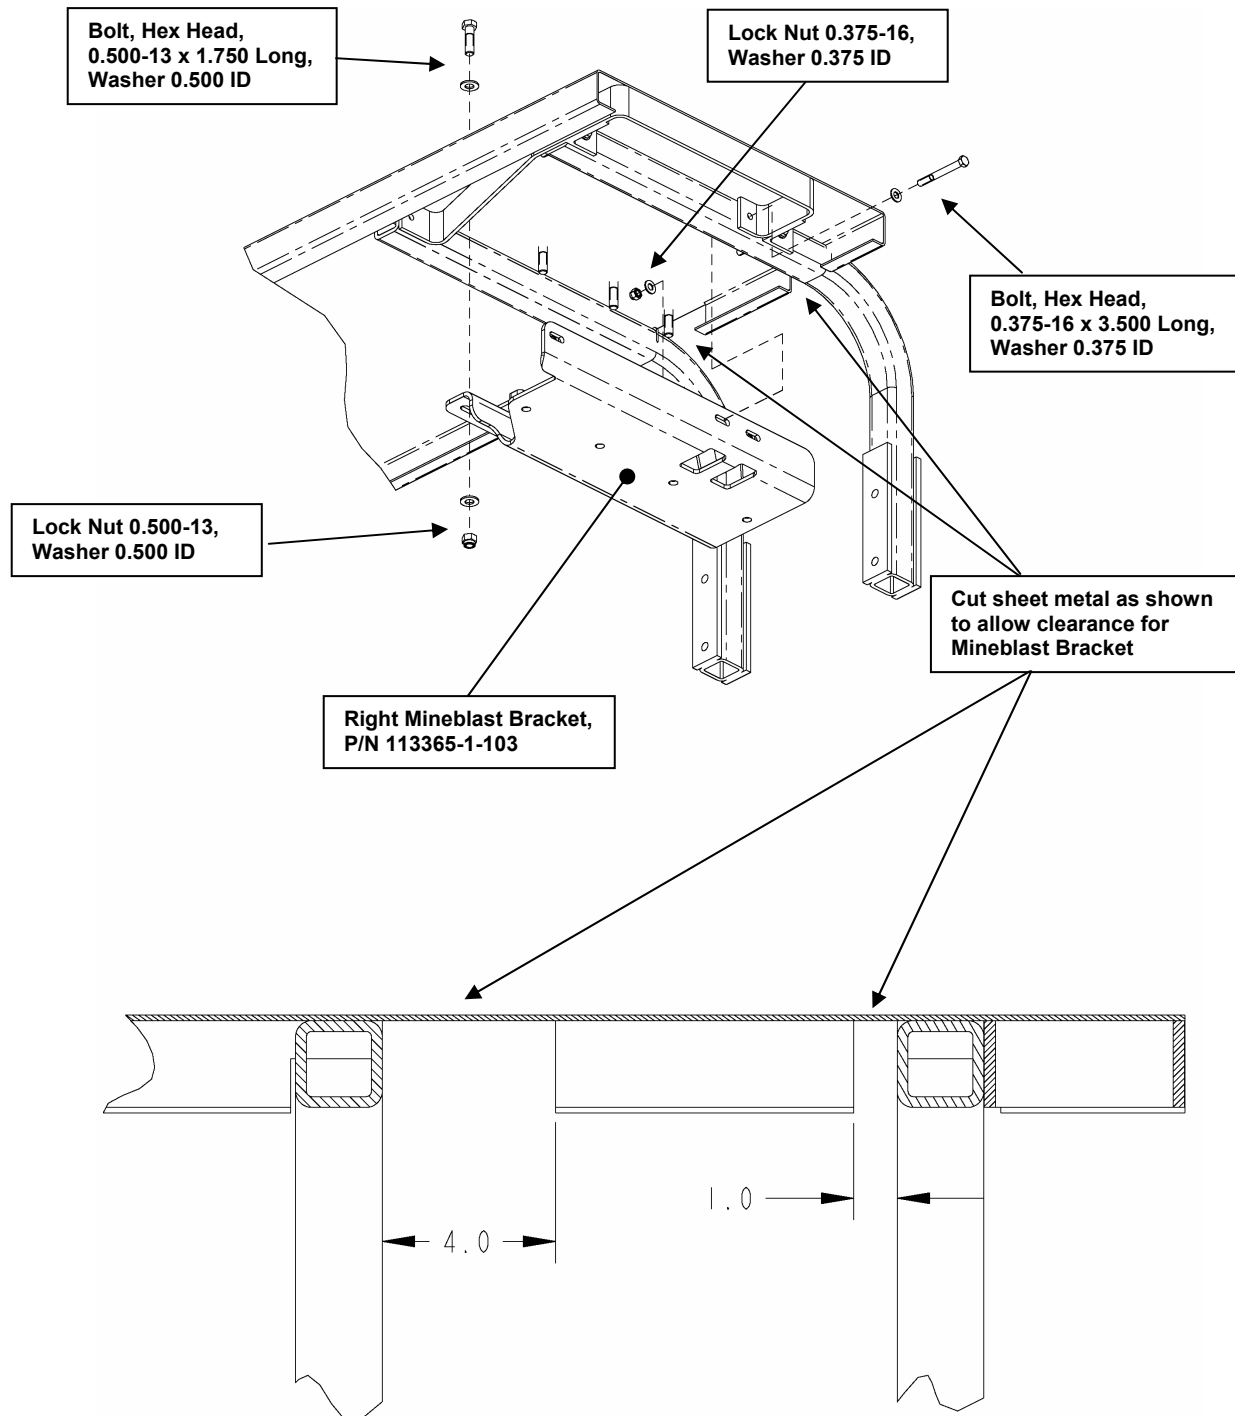

Figure 63. Underbody Attachment Bracket, Right Side.
- j) Remove the sheet metal in two locations from underneath the front wheel well as shown in Figure 63. This is needed to provide clearance for the Right Mineblast Bracket (P/N 113365-1-103).
- k) Install the Right Mineblast Bracket to the support rail using the hardware shown in Figure 63.